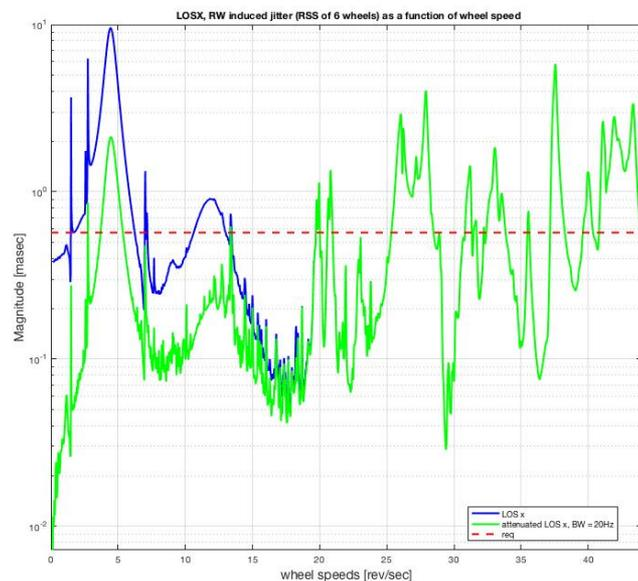

Figure 2. LoS x as a function of wheel speeds for 6 wheels (RSS of 6 wheels,-- open loop & closed loop)
- Figure 2 shows an example of a case with ACS, and RWA disturbances, open loop, closed loop FB, and FB/FF